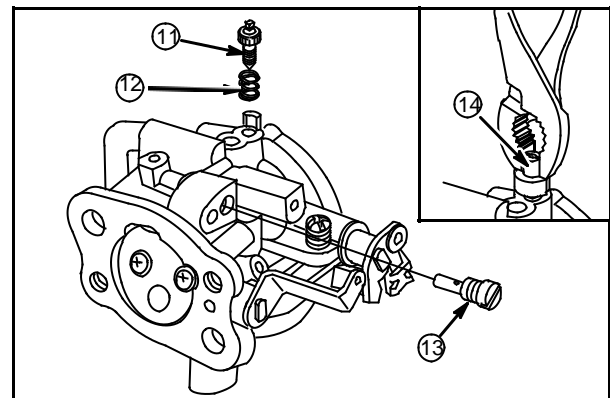

Fig. 46
Use a pliers to remove the idle mixture screw adjustment limiter cap (14) if equipped, **Fig. 46**.